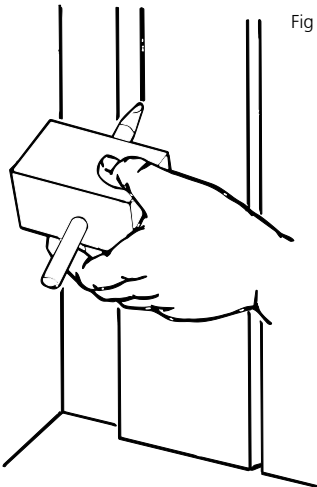

Fig 9 Mark with a scribing block when fitting panels flush to corners.
- Alternatively, to measure a panel for a flush fit to the corner, first cut the sheet about 100mm wider than you need, hold it to the corner, ensuring it is vertical with a spirit level and mark with a scribing block (see Fig 9) to match the wall contour.